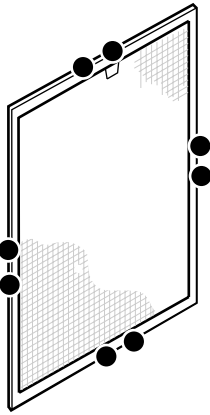

Figure 6-1. Move clips to center of frame prior to removal
2. Place the clips in the position shown in figure 6-1 in preparation for the screen to be installed. Keep the clips at the top and sides from sliding by using a short piece of masking or duct tape to secure the clips to the interface of the screen bar.
1. Slide the clips to the mid-point of the screen bars (figure 6-1).